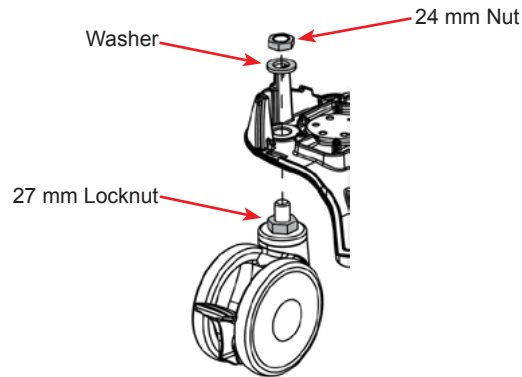

Figure 3-51 Caster Removal
- 42.4 While holding the 27 mm locknut in place, remove the 24 mm nut and washer using a deep 24 mm socket wrench (see Figure 3-51).